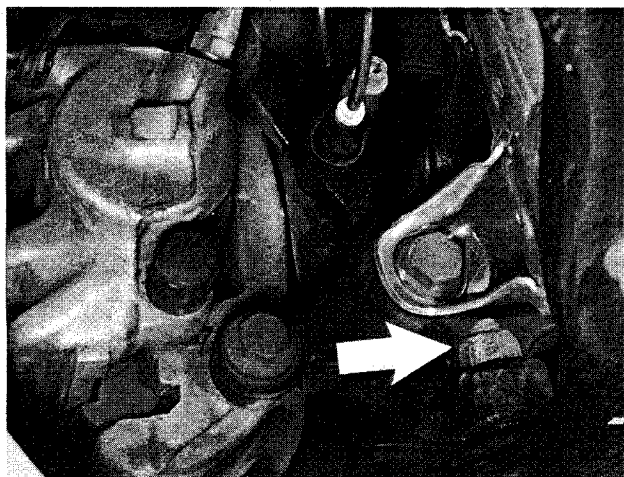

Fig. 8. Control arm ball joint nut at steering arm (arrow).
- Working at steering arm, remove control arm ball joint nut. See Fig. 8. Press ball joint out of steering arm.